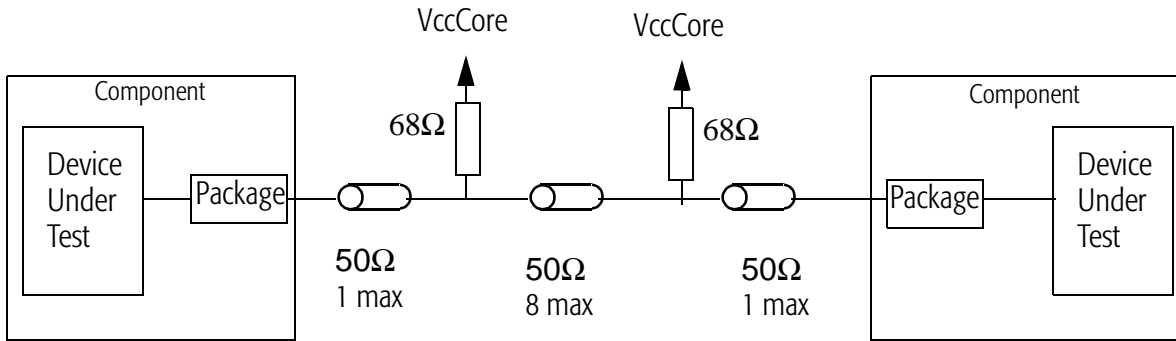

Figure 34. Test Circuit
Table 38 shows the AMD Athlon system bus timings. Figure 34 on page 194 shows the test circuit used to achieve the values in the table.
* See Figure 34 on page 194 for more information about the test circuit.